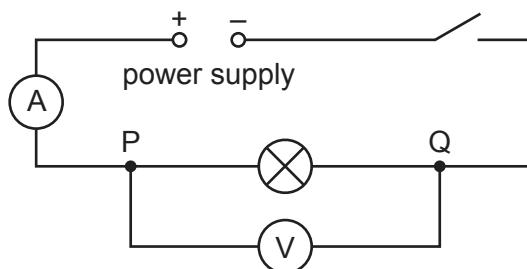

Fig. 1.1
- connecting leads to set up the circuit shown in Fig. 1.1, and one further connecting lead to allow the candidates to add the fixed resistor into the circuit.
4. The circuit should be set up ready for each candidate as shown in Fig. 1.1, with the switch open. The 10  $\Omega$  fixed resistor and extra connector should be at the side of the circuit.
The supervisor should check that the circuit is set up as in Fig. 1.1, with the switch open and the 10  $\Omega$  fixed resistor and extra connector at the side of the circuit.